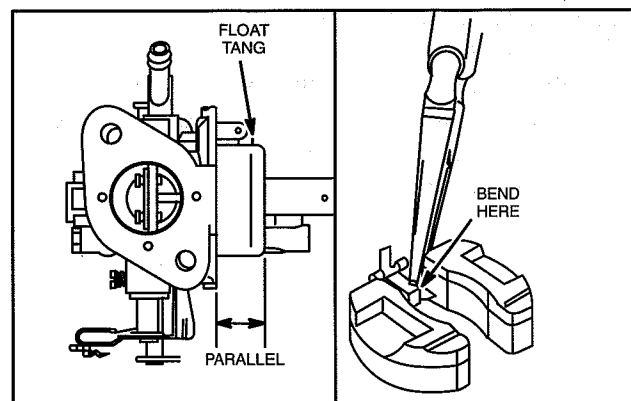

Fig. 21 – Check Float Height
16. Check float adjustment, Fig. 21.